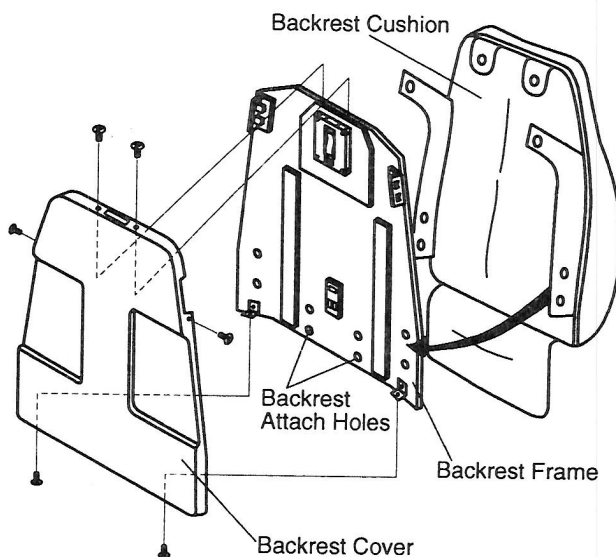

Figure 6
11) Snap on backrest & seat cushion with snaps provided. Velcro is also used to keep upholstery secure to chair. Reattach backrest cover to backrest frame using 6 screws. (See Figure 6.)